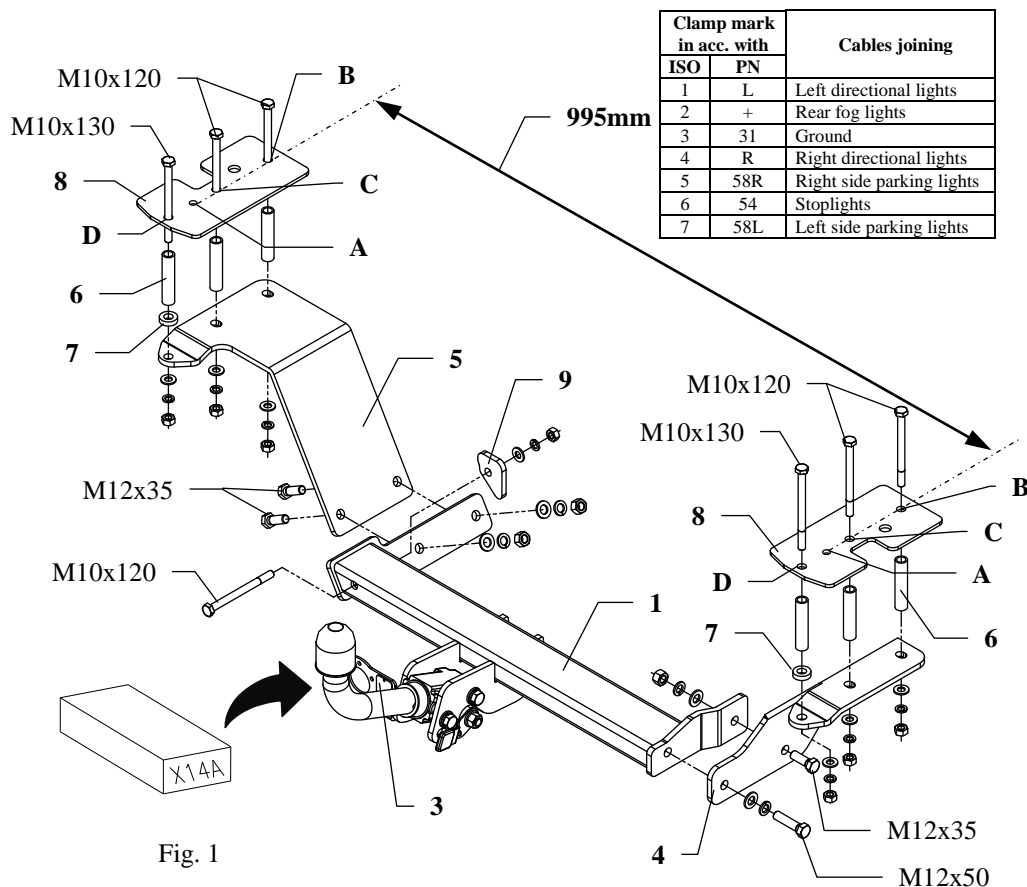
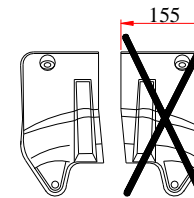

Fig. 1
Fig. 2
3. Fish-plates (pos. 8) put in this way so holes A agree with holes after luggage holders disassembly. Arrange fish-plates parallel with chassis lines and according dimension from figure 1. Next through holes B and C drill holes using bit  $\phi 11\text{mm}$  and through holes D drill holes using bit  $\phi 18\text{mm}$ .
4. Through holes D put distance sleeves  $\phi 17$  (pos. 6), put fish-plates pos.8 at the end put bolts M10x120mm (pos.13) and M10x130mm (pos. 12). See figure 1.
- on the left side – on protruding bolts put left bracket (pos. 5). Put distance sleeves pos. 6 before! Twist on..
- NOTE!** Use thick washer  $\phi 25 \times 6\text{mm}$  (pos. 7) on hole D (see figure 1).
- on the right side – on protruding bolts put right bracket (pos. 4). Put distance sleeves pos. 6 before! Twist on loosely.
6. Between installed side brackets (pos. 4 and 5) put main bar of the towing hitch (pos. 1) and fix using bolts M10x120mm, M12x35mm and M12x50mm. See figure.
7. Reassemble thermal shield after cut out fragment according to figure 2.
9. Fix body of the automat and place tow-ball according to supplied instruction. Note! Remember to place socket plate (pos. 3) as shown on the drawing 1.